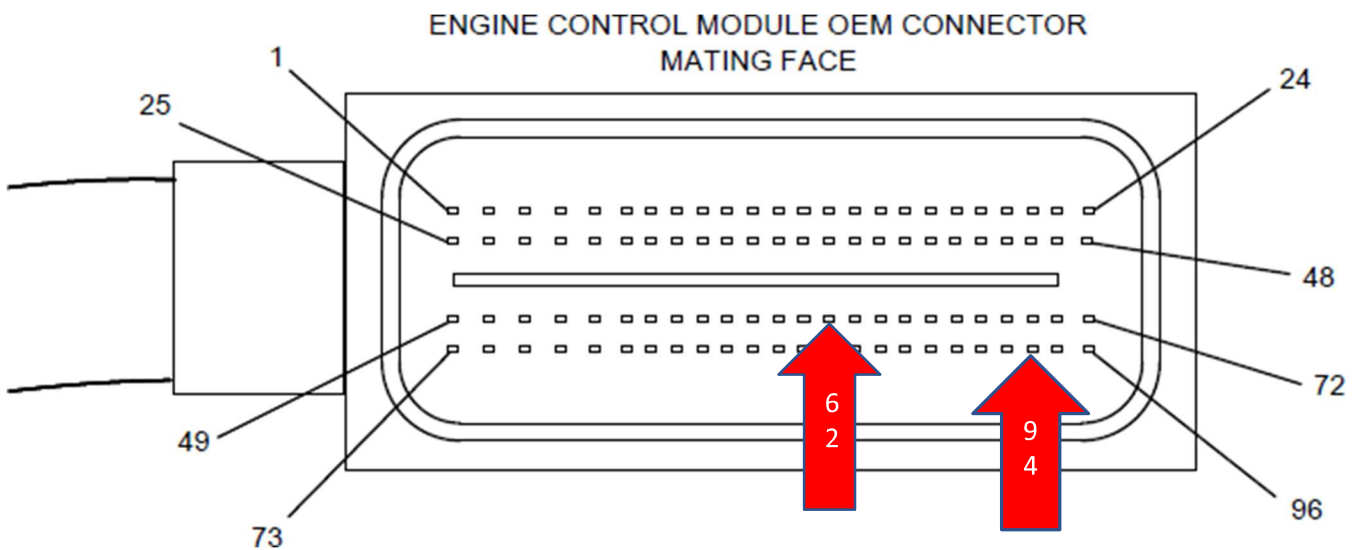

Figure 6 Cummins J2 OEM Connector
- Locate Cavity 94 in the Cummins ECM J2 Connector, Reference Figure 6. Remove the seal plug from the J2 Connector.